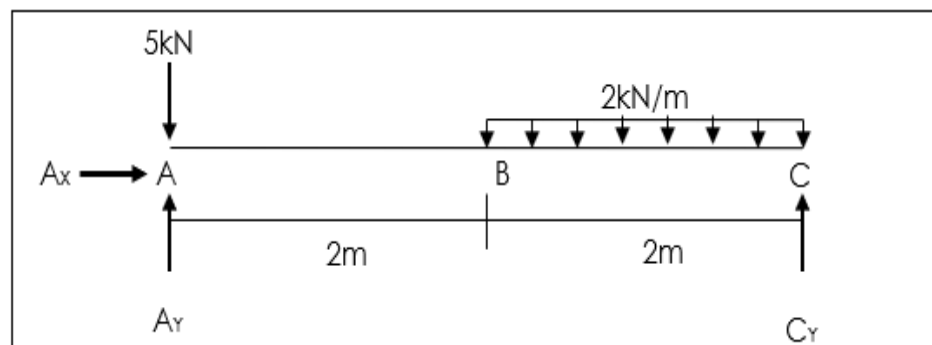

Figure A2(b) / Rajah A2(b)
- (b) A simply supported beam is given as shown in Figure A2(b). Referring to the figure, calculate the reaction force at the support A and C of the beam.